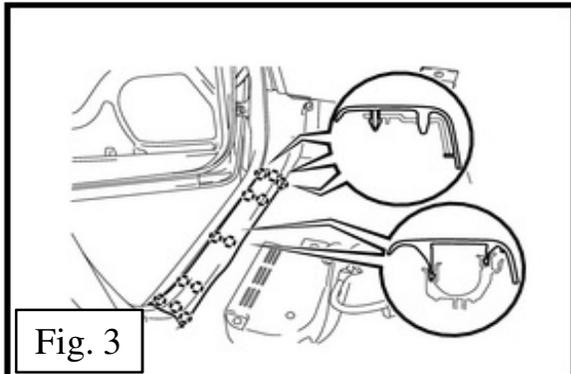

Fig. 3
5. Using a trim panel removal tool, pry the plastic threshold step plate off, being careful not to break the plastic clips (Fig.3).